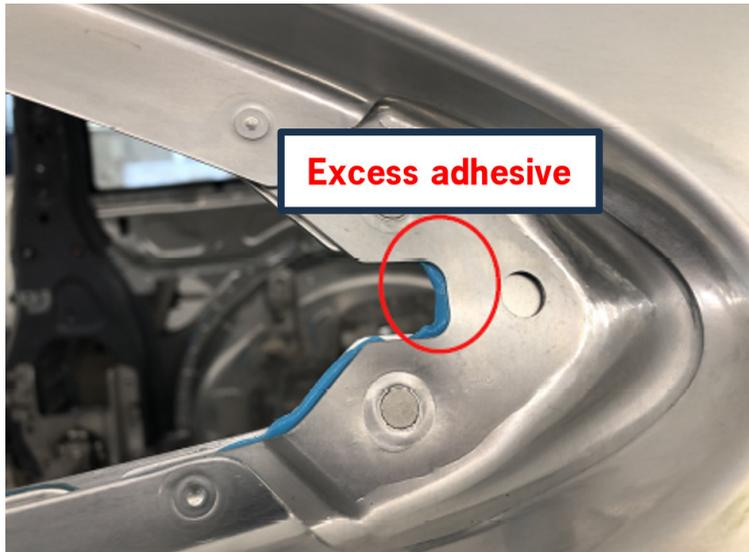

Figure 3
4. Adhesive overage may increase tension on the glass. Cut away and remove any excess adhesive. (The adhesive is blue on figure 3.)